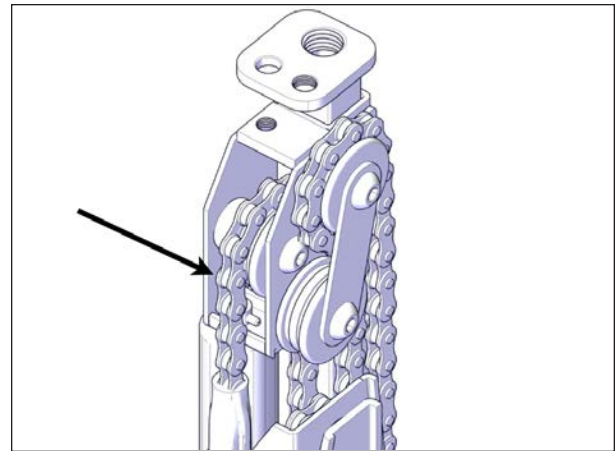

FIGURE 94: JACK CHAINS
9. Inspect the chains for signs of deterioration. If this is the case, please call your local Covana dealer immediately see Figure 94.